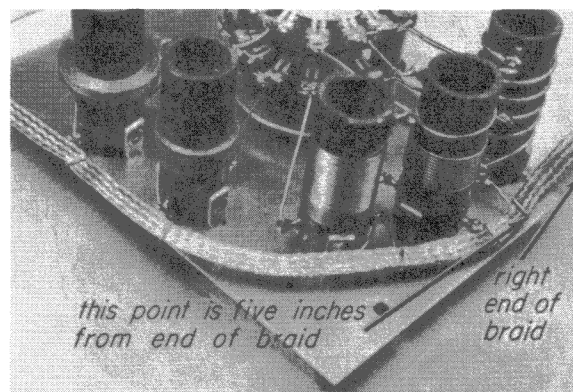

Fig. 21-9
Step 1. Wrap the wire from terminal 3 of coil E around the braid at a point five inches from right end as shown in Fig. 21-9.